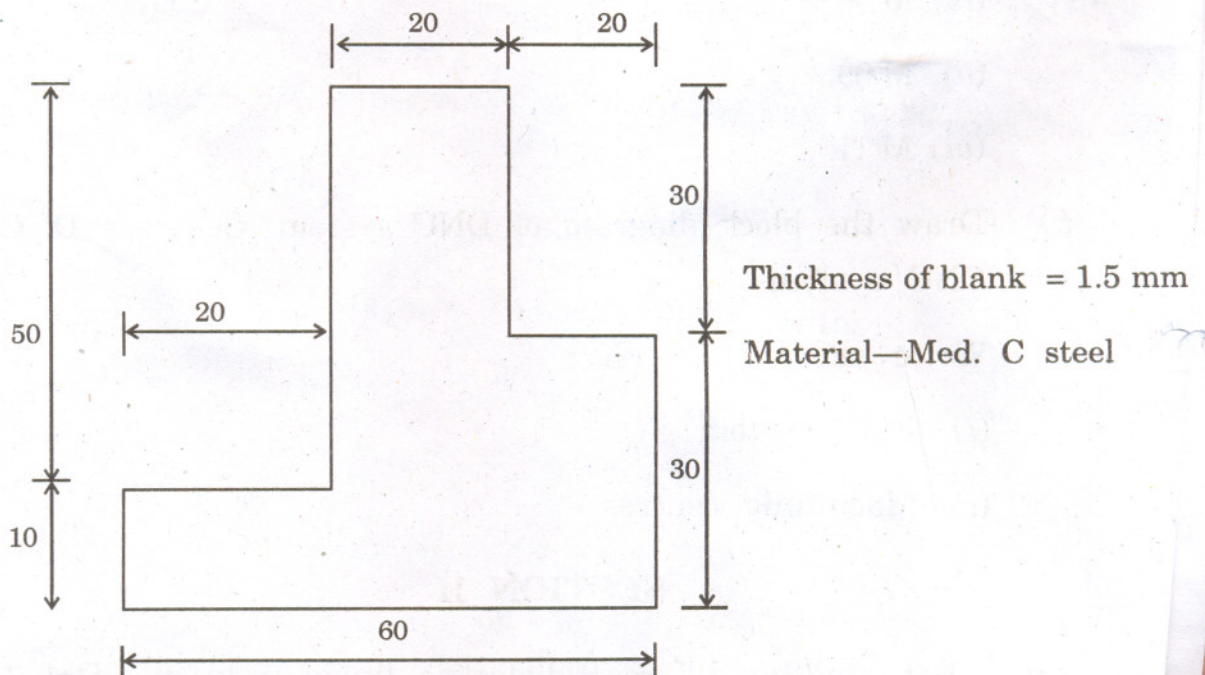

Fig. 1
Also determine the Punch and Die size for the component shown in Fig. 1. [8]
- (c) What type of stripper is preferred for the blank shown in Fig. 1 ? Justify it. [2]